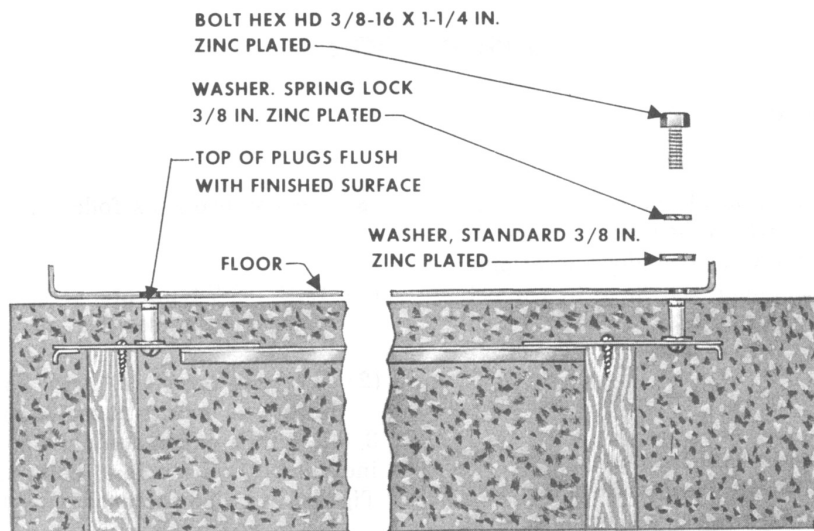

Fig. 2 — Fastening Booth to Template
- (1) Position the assembled template in the 40-inch square form on wooden blocks so that the top of four mounting inserts will be flush with concrete base (Fig. 2).
- (1) With list 7 template, place fasteners in template inserts (see Fig. 2).
- (2) *Without template*, drill holes in concrete using the floor to mark location of holes. Use 3/8 x 2 inch expansion shields and 3/8 x 2-1/2 inch hexagonal machine bolts to anchor booth. Tighten with box wrench (KS-14962).
- (3) *Wooden platform* (at an outdoor location such as a boardwalk) drill lead hole in platform using floor to mark locations of holes. Use 5/16 x 2-1/2 inch lag screws to anchor booth.
- (4) *Indoor locations*, use an appropriate wood screw or masonry fastener.